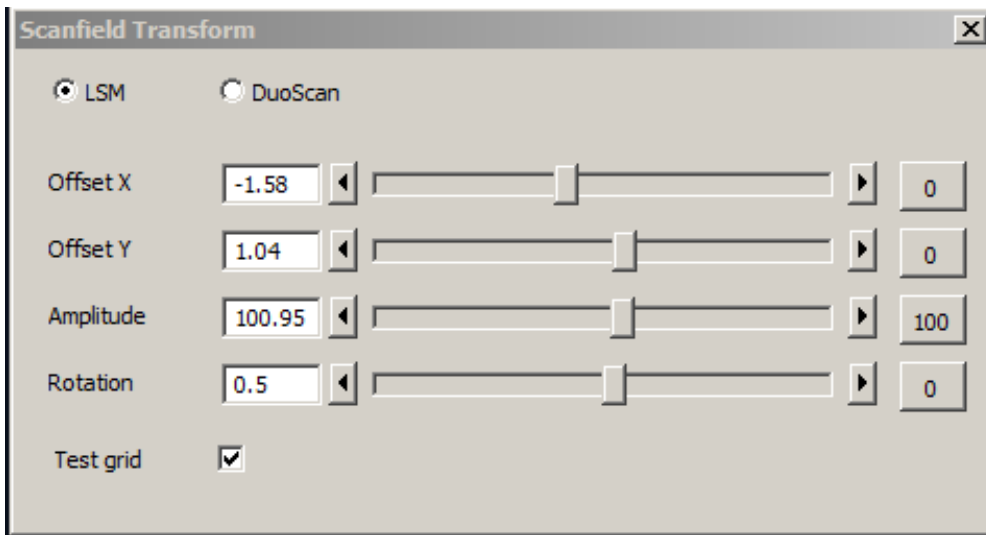

Fig. 21 Scanfield Transform macro interface
- Start the Image Match (Scanfield Transformation) Macro (Fig. 21).
- For LSM 7 *MP* with two scanners, focus onto the grid using the imaging scanner (chose "LSM" in the Macro window) and position the center of the grid sample into the center of the image. To do this project the virtual grid into the image by checking the box next to **Test grid** in the macro window (Fig. 21) and try to overlay the grid sample with the Test grid in the image moving the sample stage accordingly. Fine adjust the image of the grid sample to the Test grid using the buttons for Offset, Amplitude and Rotation.